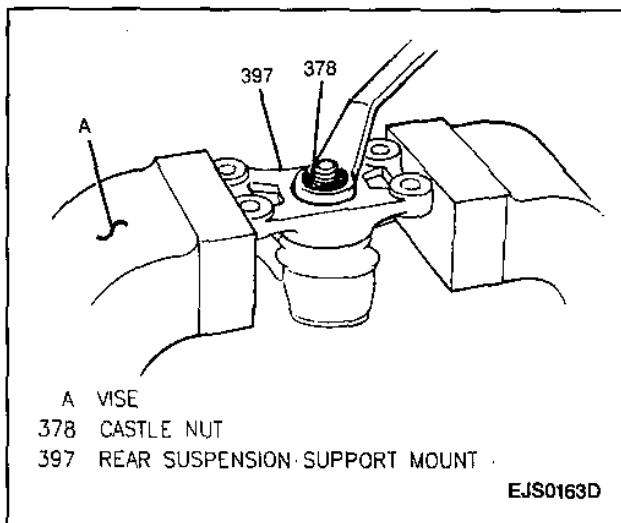

Figure 17—Removing Castle Nut
9. Castle nut from rear suspension support mount (Figure 17).